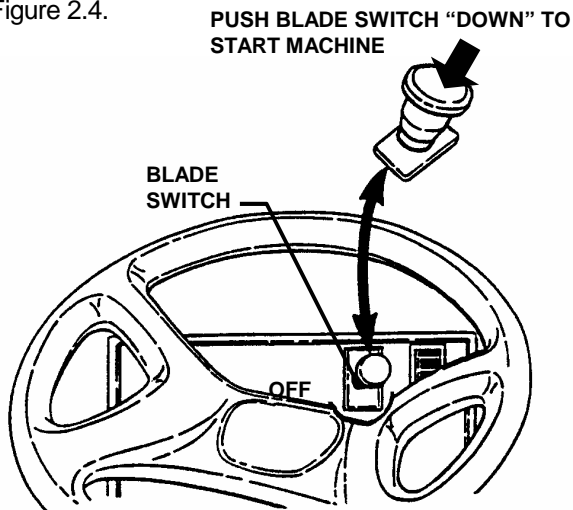

FIGURE 2.4
2. Push blade switch down to the "OFF" position. See Figure 2.4.